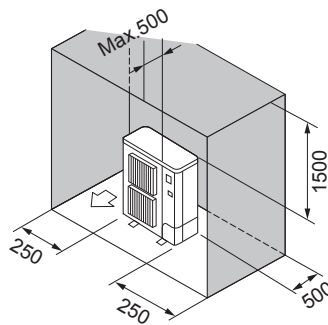

Fig. 5-8
- ⑥ Obstacles at rear, sides, and above only (Fig. 5-8)